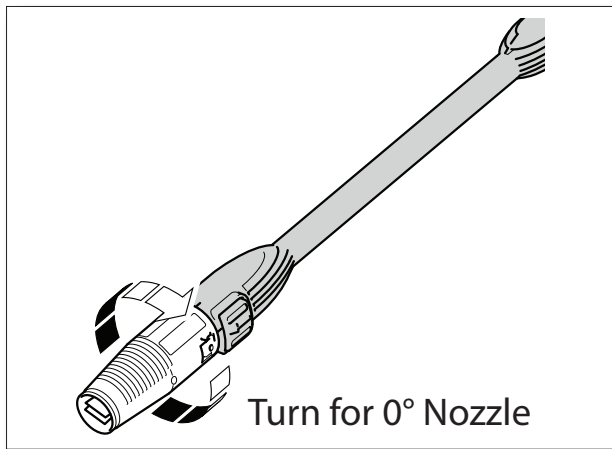
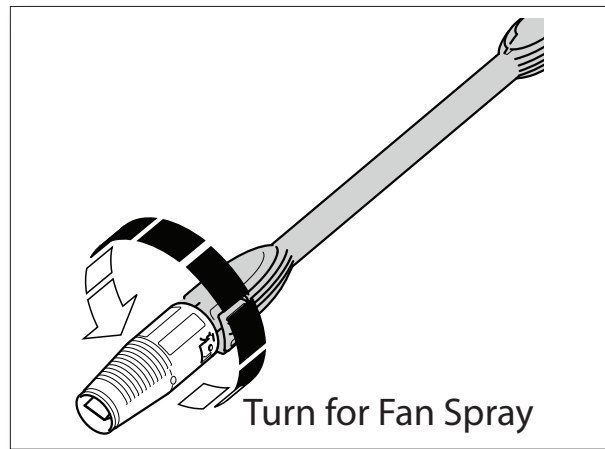

Fig. 8
Fig. 9
- The adjustable spray nozzle can vary between a high pressure, 0° concentrated beam (**Fig. 8**) and a large fan spray with lower pressure (**Fig. 9**). You can also vary between the two for a desired pressure and coverage.